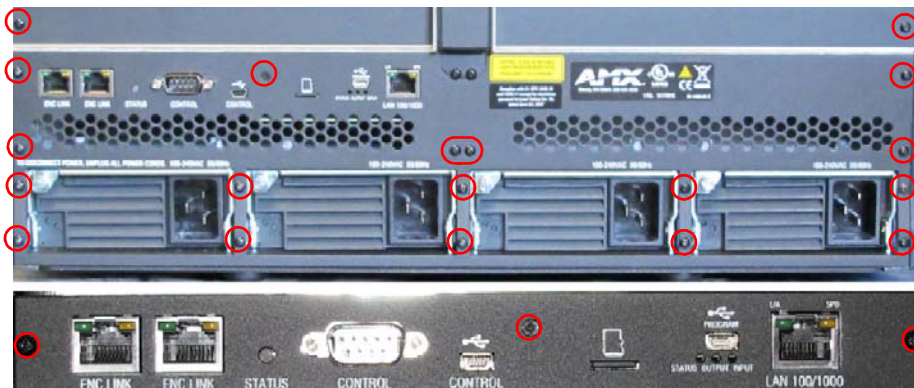

FIG. 146 Remove screws that hold faceplate
3. Remove the screws from CPU faceplate: seventeen screws in the DGX 64, three screws in DGX 8/16/32 (FIG. 146):